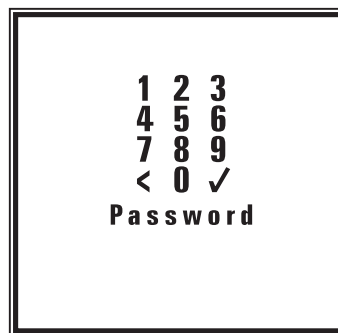

Figure 3-5. Password Display
2. Highlight "Silence" and press enter (⏏). The password display appears as in Figure 3-5.
1. When the Password Display (Figure 3-5) initially appears, the 1 is already highlighted. Press enter (⏏). As each digit is entered, an asterisk (*) displays at the bottom of the screen. Use backspace (the arrow symbol below the 7) to delete a previous entry.